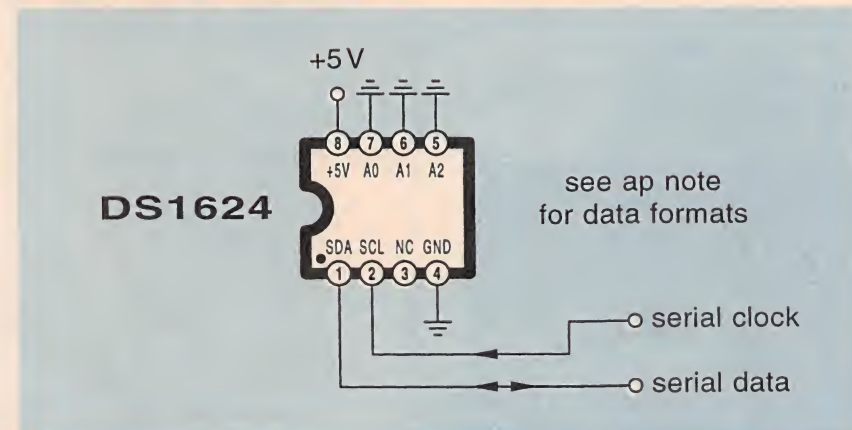

FIG. 3—THE DALLAS DS1624 is a new self-sensing digital thermometer chip that offers 0.03-degree resolution and 13-bit data.
**Dallas DS1624:** This device (see Fig. 3) measures its own internal temperature to 13-bit resolution and a 0.03-degree accuracy. It outputs serial digital temperature information as well as providing for nonvolatile storage of precise calibration values. The operating range is  $-55^{\circ}\text{C}$  to  $+125^{\circ}\text{C}$ . One variation on this device is Dallas' DS1820 "temperature in a can" chip; it draws power and communicates over a single wire. It also offers thermostat-limit values. See their applications note (#105) for more information. Note that the address inputs can input binary values, letting you connect up to eight sensors on a single data and clock line pair.